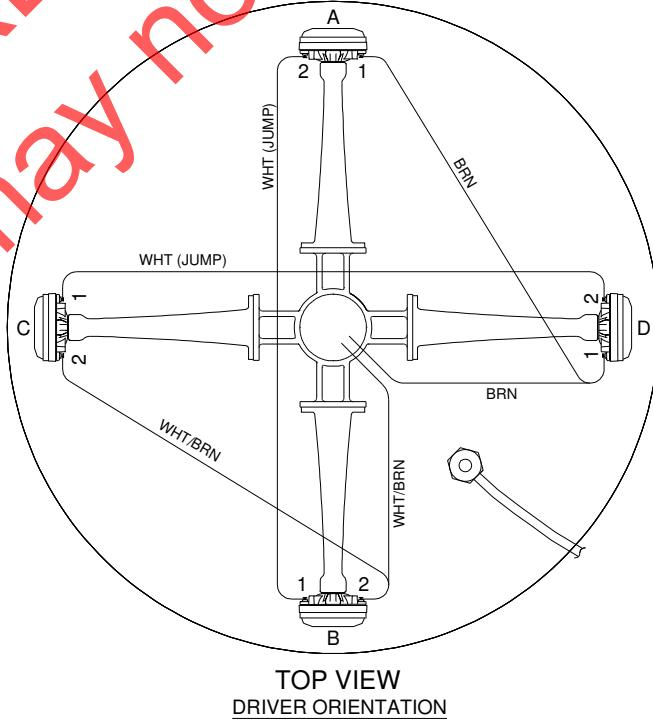

Figure 3-7. Driver Orientation (excluding MOD6032)
The drivers should be threaded clockwise onto the horn throats. Hand tighten approximately 1/2 turn after gasket engagement. Locate the two (2) wires tie wrapped near the end of the horn throat. Note the label on the back of the drivers and connect the solid wire to terminal 1 and the striped wire to terminal 2 and white jumpers from 1 to 2 as shown in *Figure 3-7. Driver Orientation*.
Depending on the model of siren used the number of speaker connections and colors will vary. This is due to the different number of drivers required for each model. In any case OBSERVE PROPER POLARITY when making these connections. The striped wire is common and goes to position 2. The solid colored wire is signal high and goes to position 1. Each speaker connection is color-coded. Refer to Figure 3-7 for wiring and position.
The bottom module in the speaker array is an inactive module. This means there are no drivers contained in the module. The next module up is called module number one. The next one above module one is called module number two etc. These are referred to as active modules. Each active module contains four (4) drivers, however the MOD6048 contains eight (8) drivers per active module. Refer to *Figure 3-7* for driver orientation and wire location for active module one only.
To determine the location of the bad driver refer to the wiring table in Section 3 and *Figure 3-7* and *Figure 3-8*.